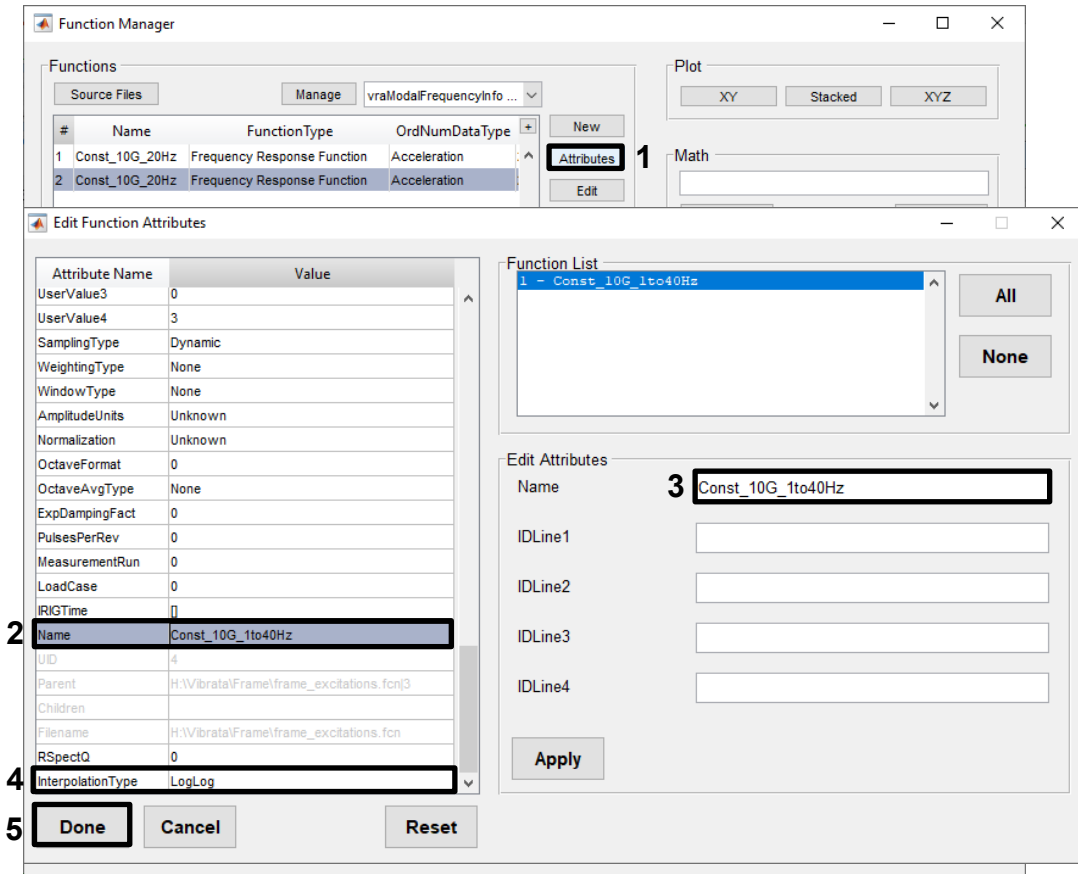

Figure 4-28. Edit the new function's name and make it use log-log interpolation.
- c. With the new function still selected, click the **Attributes** button to open the *Edit Function Attributes* dialog; change the interpolation method to *LogLog* and its name to "Const\_10g\_1to40Hz" (Figure 4-28). Click **Done** to close the dialog and save the changes.